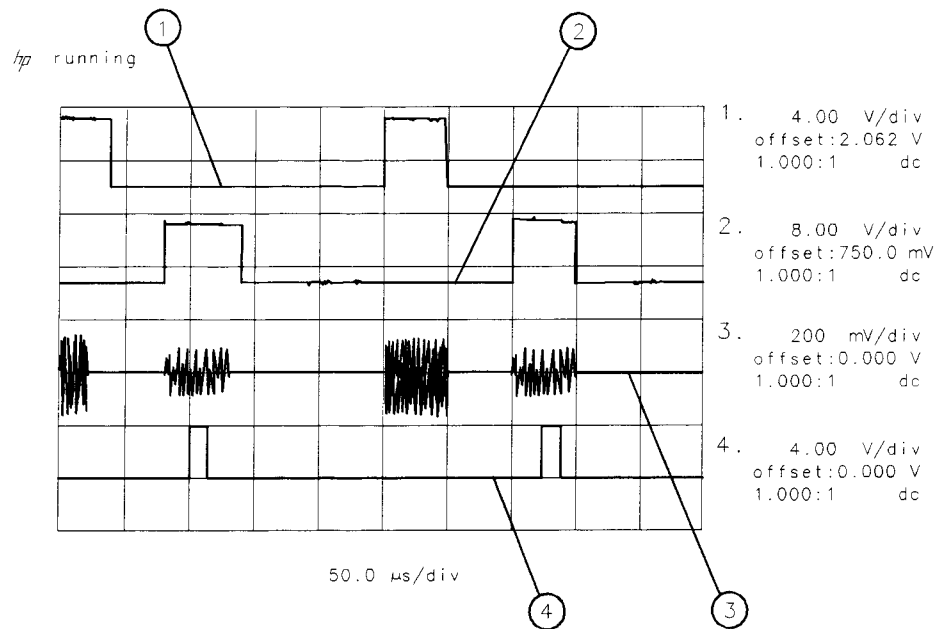

Figure 4-26. Placing the Gate Output During the Second Signal
- To view the second signal, change the gate delay so that the gate output is under the second signal. Since the second signal had a signal delay of approximately $85 \mu\text{s}$, we set the gate delay to $85 \mu\text{s}$ plus the pulse width/2, or $110 \mu\text{s}$. Press **(SWEEP)**, **Gate Control**, **GATE DELAY 110 (μs)** to set the gate delay to $110 \mu\text{s}$. Using an oscilloscope can be helpful in placing the gate output during the pulsed signal. See Figure 4-26.
Item	Description of Items in Figure 4-26